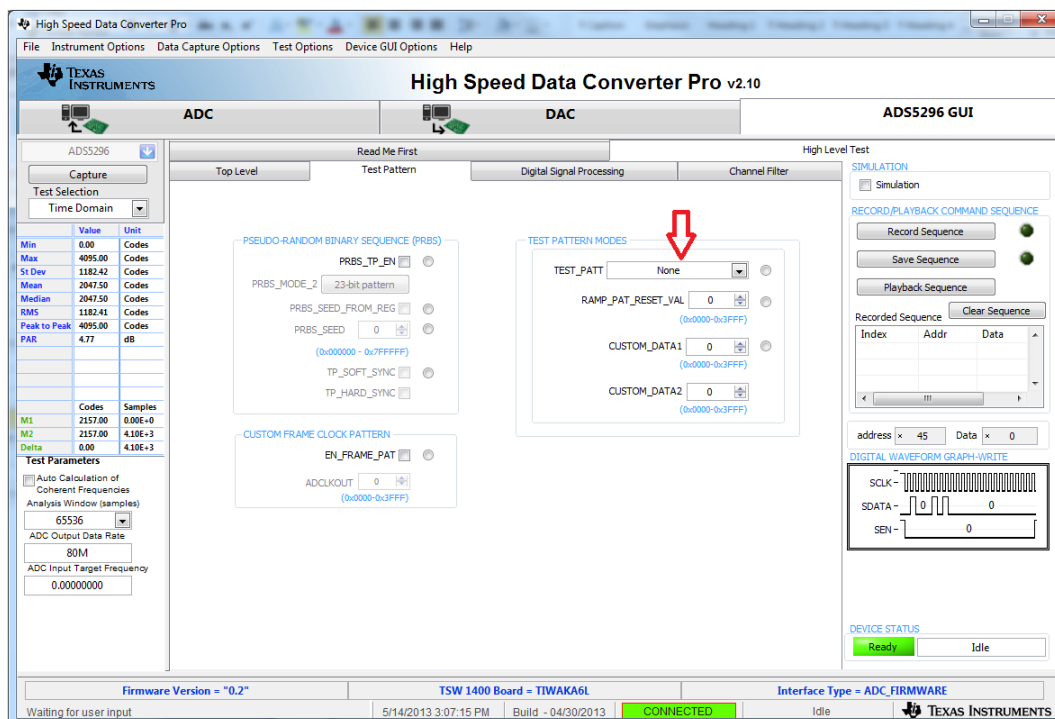

Figure 39. ADS5296 GUI Setup for Octal Non-Interleaving Mode
3. Click on *ADS5296 GUI* tab and ensure that the **TEST_PATT** field is set to **None**, as shown in Figure 39.